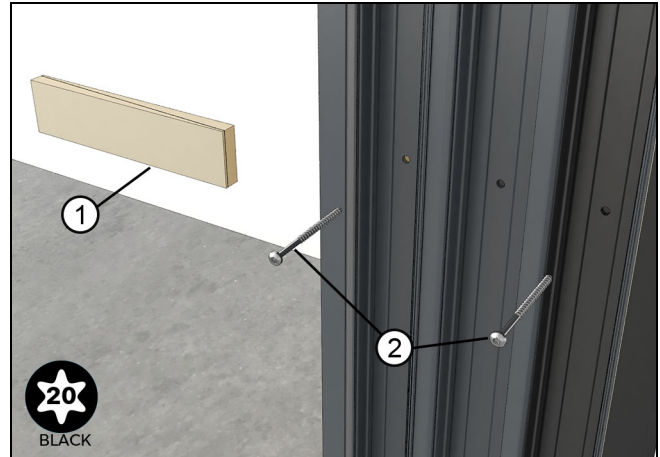

Figure 67
7. Complete fastening and shimming through additional fastener holes in the jamb. See Figure 67.